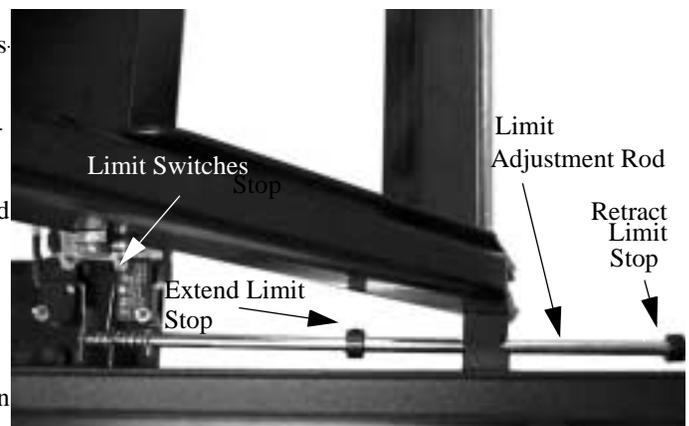

Figure 6. Limit Stops
Adjustment rod is located on base (see Figure 6).
1. Using a 1/8" Allen Wrench, loosen the set screw on the extend limit stop (see Figure 6).
3. Position the extend limit stop (see Figure 6) at the travel location on the limit stop rod.
4. Using a 1/8" Allen Wrench, tighten the set screw on the extend limit stop (see Figure 6).
NOTE: All extend/retract adjustments are made using the stops on the limit adjustment rod (see Figure 6).
2. Position the retract limit stop (see Figure 6) at the travel location on the limit stop rod.
3. Using a 1/8" Allen Wrench, tighten the set screw on the retract limit stop (see Figure 6).